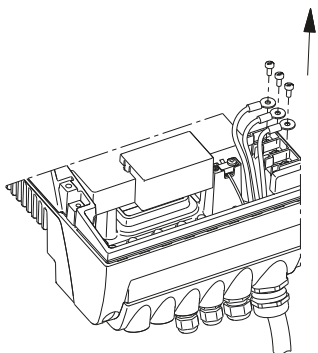

Fig. 23 Cover over the supply terminals
2. Remove the three mains supply conductors from the supply terminals, but leave the protective earth conductor in the PE terminal. See fig. 23.